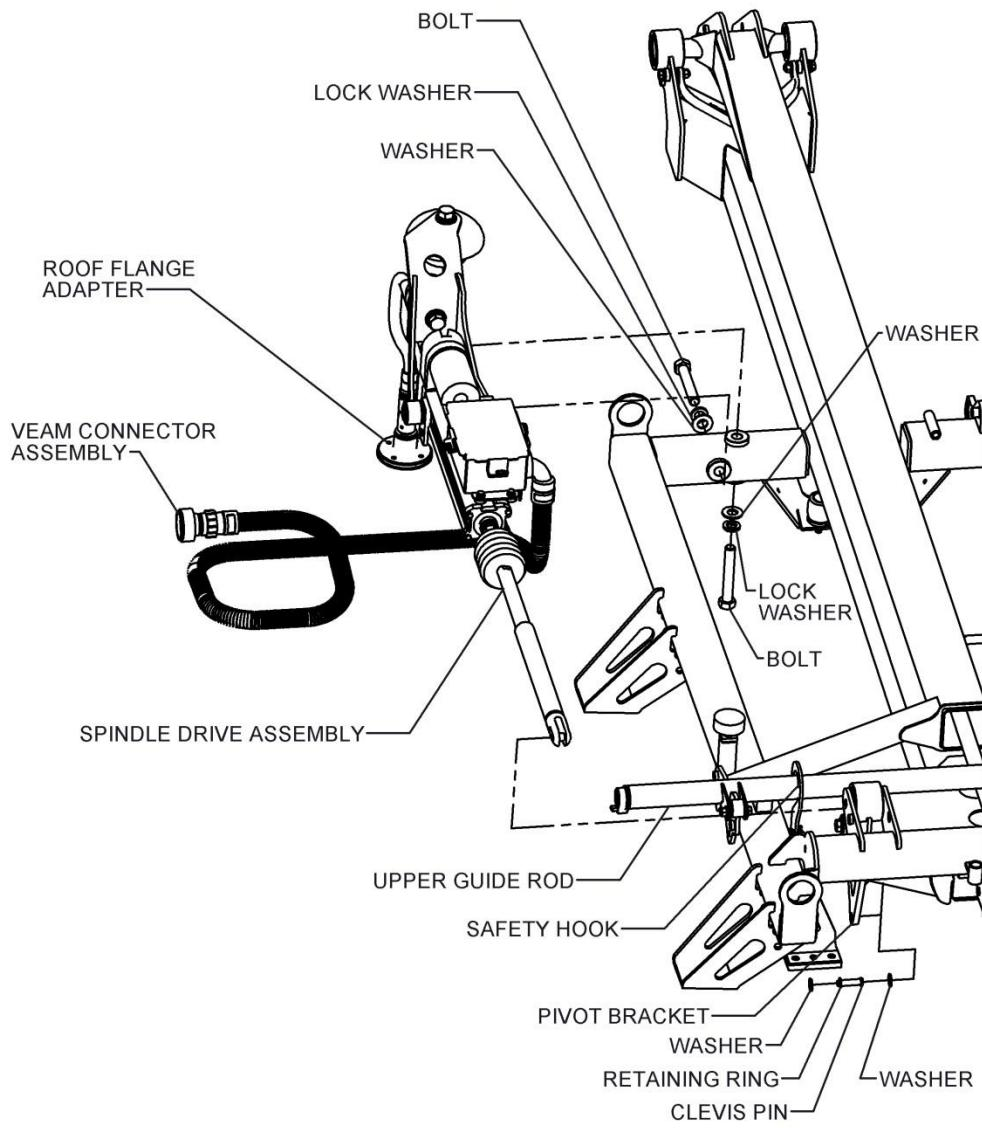

Figure 7-5: Spindle Drive Replacement
5. Remove the clevis pin and retaining ring that secure the actuator shaft to the lower arm. Allow this end to rest on the train car top. See Figure 7-5.